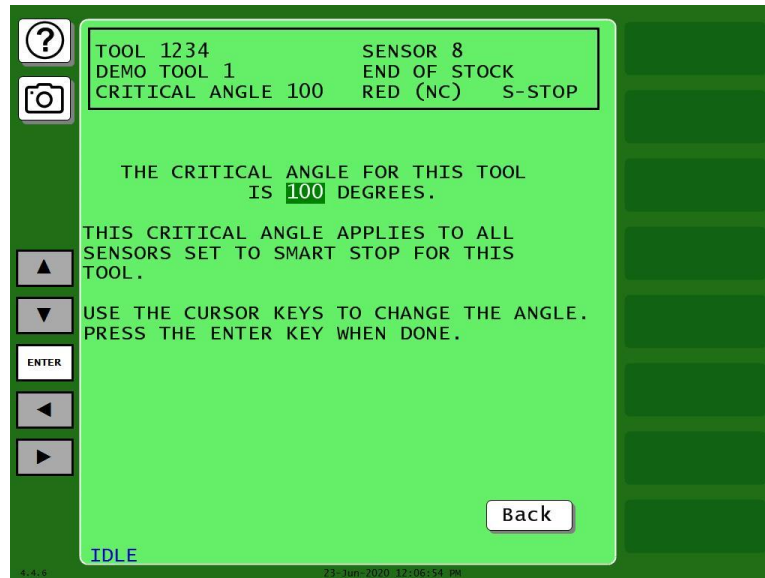

Figure 6-33. Critical Angle Programming Screen
1. On the Sensor Stop Type screen, select SMART STOP. The Critical Angle Programming screen displays, Figure 6-33.